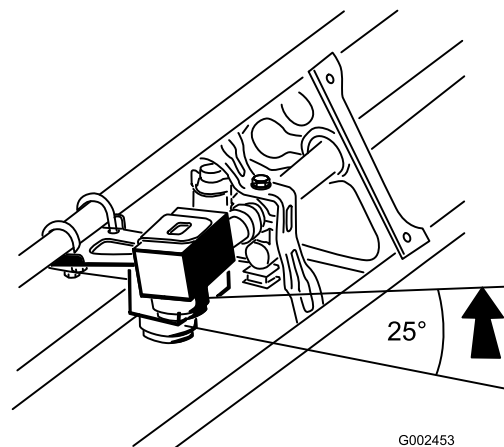

Figure 2
5. Rotate the sensor and protection tube up so that it is approximately 25 degrees above parallel with the ground, then tighten all the locknuts on the U-bolts to secure the sensor and projection tube (Figure 2).